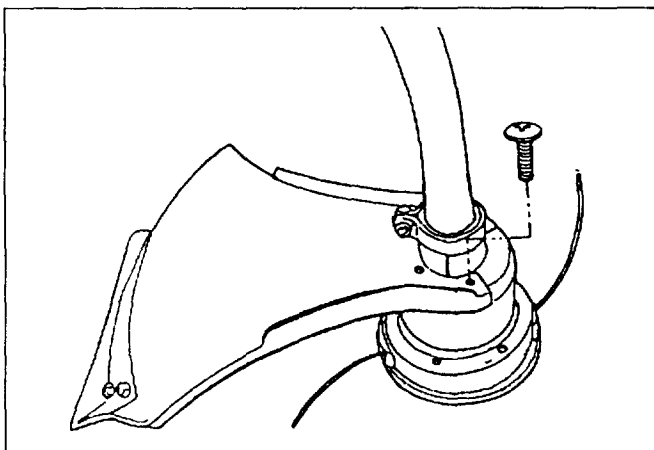

Fig. 4
4. Install the Phillips screws to complete assembly of the line guard (Fig. 4).